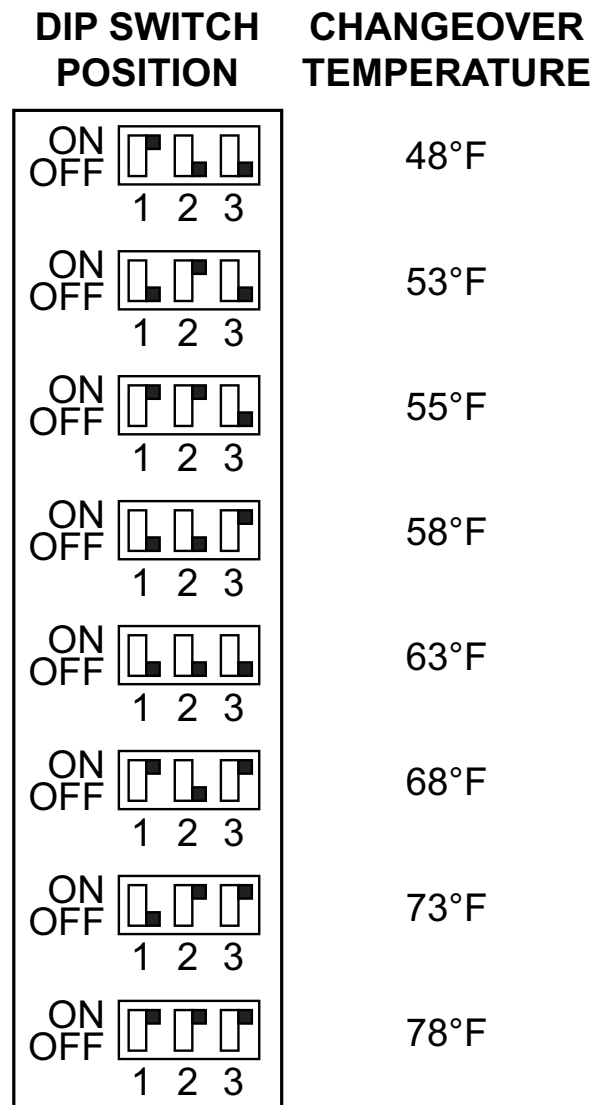

Fig. 12 — Outdoor Air Temperature Changeover Set Points
- a. The standard EconoMi\$er IV outdoor air sensor has a factory setting of 63°F (17°C) for the outdoor air temperature changeover and 55°F (13°C) for the supply air temperature sensor. The outdoor air temperature setting can be adjusted on the sensor by setting the dip switches on the sensor. (See Fig. 12.) The ABCD potentiometer on the EconoMi\$er IV controller should be set to the "D" position.
The outdoor air temperature sensor (HH57AC080) is a 10 to 20 mA device used to measure the outdoor-air temperature. The outdoor-air temperature is used to determine when the EconoMiSer IV system can be used for free cooling. The sensor has 8 selectable temperature changeover set points, ranging from 48°F (9°C) to 78°F (26°C). The temperature changeover is set using the 3 dip switches on the sensor. (See Fig. 12 and 13.)
The standard controller for field installed accessory economizers is shipped from the factory configured for outdoor dry bulb changeover control. For this control mode, the outdoor temperature is compared to a selectable set point on the OAT sensor. If the outdoor air temperature is above the set point, the EconoMiSer IV controller will adjust the outdoor air dampers to minimum position. If the outdoor air temperature is below the set point, the position of the outdoor air dampers will be controlled to provide free cooling using outdoor air. When in this mode, the Free Cool LED next to the outdoor enthalpy set point (ABCD) potentiometer will be on. The changeover temperature set point is controlled by the dip switches on the sensor. See Fig. 12 and 13 for the switch positions corresponding to the temperature changeover values. The ABCD potentiometer on the controller should be turned fully clockwise (CW) to the “D” position.